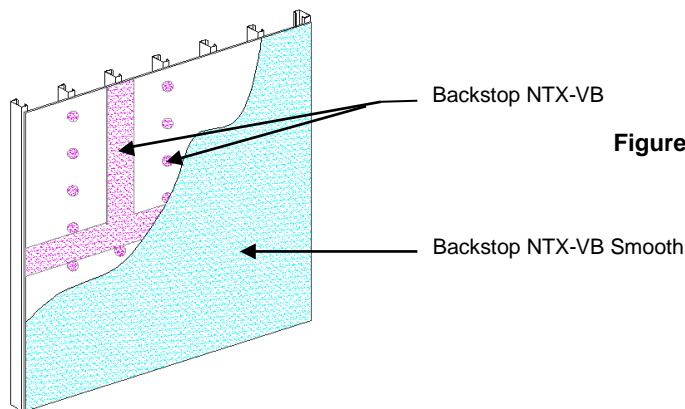

Figure 4
- 1) Backstop NTX-VB Smooth material should be applied in a uniform, continuous film at the recommended coverage rate free of voids and pinholes – Figure 4.